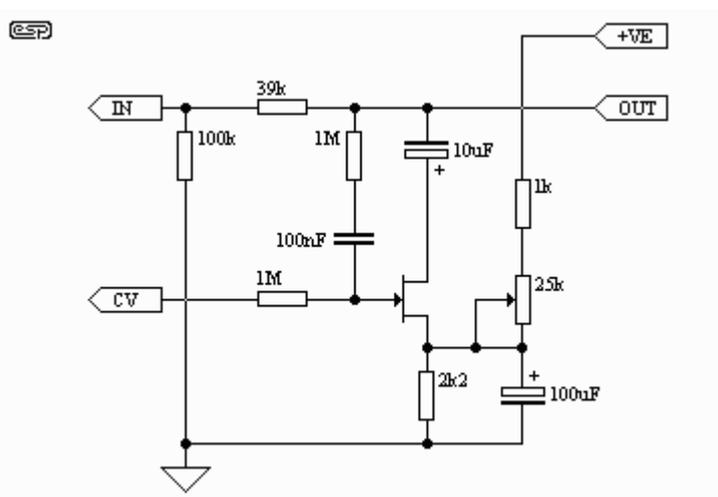

Figure 1 - "Conventional" VCA Using a JFET
The circuit devised by Phil Allison still has some input voltage limitations, since it is based on a FET. Junction FET VCAs also create considerable distortion, with the worst of it appearing when the signal is attenuated by 6dB. The common way to fix this problem is to apply 1/2 of the drain voltage to the gate, along with the control voltage. Figure 1 shows the conventional way this is done. The predominantly second harmonic distortion is converted by this technique, to become a very much reduced amount of third harmonic distortion. This is further reduced by ensuring that the signal voltage between drain and source is less than 100mV, but the exact voltage is dependent on the FET used.
The arrangement shown looks perfectly reasonable when you first see it, but closer examination reveals that the two 1M resistors form a voltage divider for the control voltage (CV), and this exists until the 100nF cap is charged. The maximum attack time is limited, with a time constant of 100ms as shown. Figure 1 is adapted (for comparative purposes only) from a published circuit from a well respected designer :- O and the circuit is only useful if large peaks in signal level are tolerable. If they are, a peak limiter is probably not needed anyway :-)
This circuit is a vast improvement on the conventional approach as shown in Figure 1. With that circuit, any attempt to make the attack time shorter than about 20ms creates nasty clicks in the signal, as the FET only gets half the initial control voltage during the time it takes to charge the distortion cancellation capacitor. As a result, the attenuation is greatly reduced during this critical period, and the transient is allowed through almost unaffected by the FET.